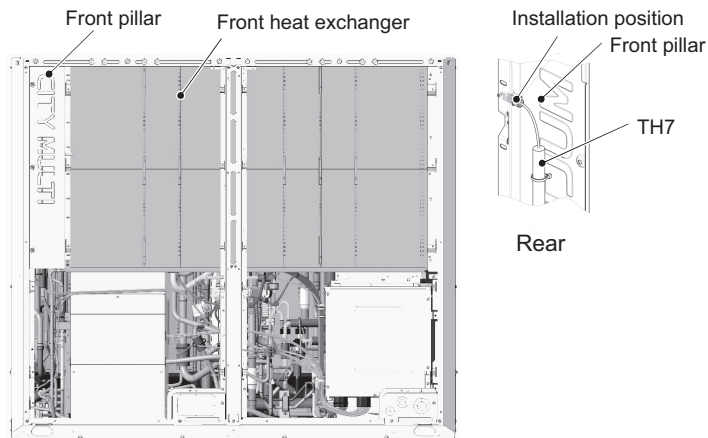

Figure 14
(15) Remove the front pillar. (7 screws, Figure 14)
(16) Remove the TH7 through the hole on the front pillar. (Figure 14 Rear)